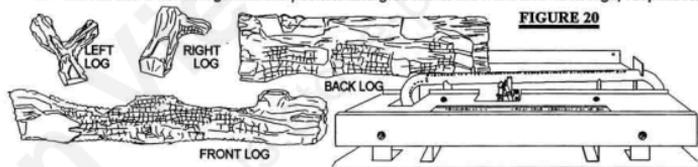

FIGURE 20
1. Place the front log, as shown, centered along the inside front edge of the burner tray. **FIGURE 20.**